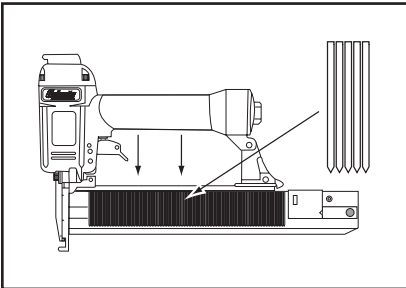

Figure 2. Loading staples onto stapler.
3. Point the stapler down and insert a stick of staples onto the magazine as shown in **Figure 2**. Make sure that the pointed ends of the staples point in the same direction as the stapler nose piece.